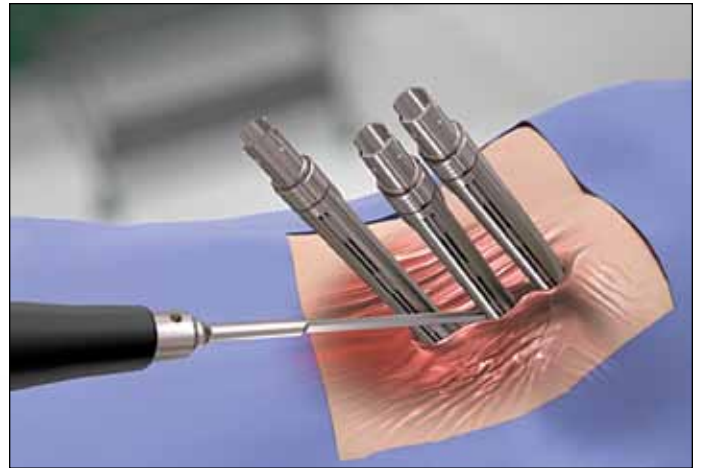

FIG. 22
- Move the distal tip of the Tissue Dissector toward the adjacent level tulip head and angle it such that it contacts the adjacent screw head. This dissects a tissue plane and creates a pathway for rod placement. (FIG. 22)